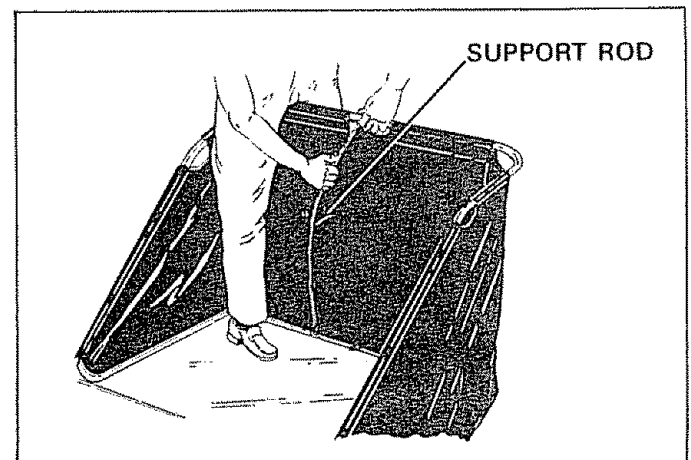

FIGURE 18
- Assemble the two hopper support rods as shown in figures 18 and 19. Place top end of rod into hole in upper tube and bend rod outwards and snap bottom end of rod into hole in bottom tube. **NOTE: Rods are spring steel and require bending or bowing as shown. Do not over bend and lose bag support tension.**